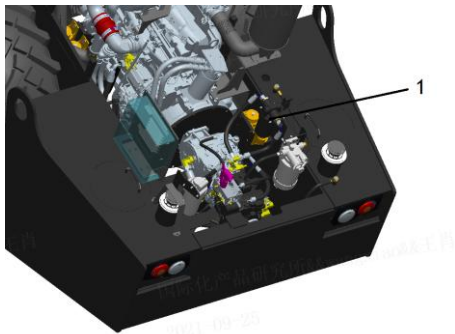

Figure 3-24
3.4.5.3 Replace the hydraulic oil filters (Figure 3-24)